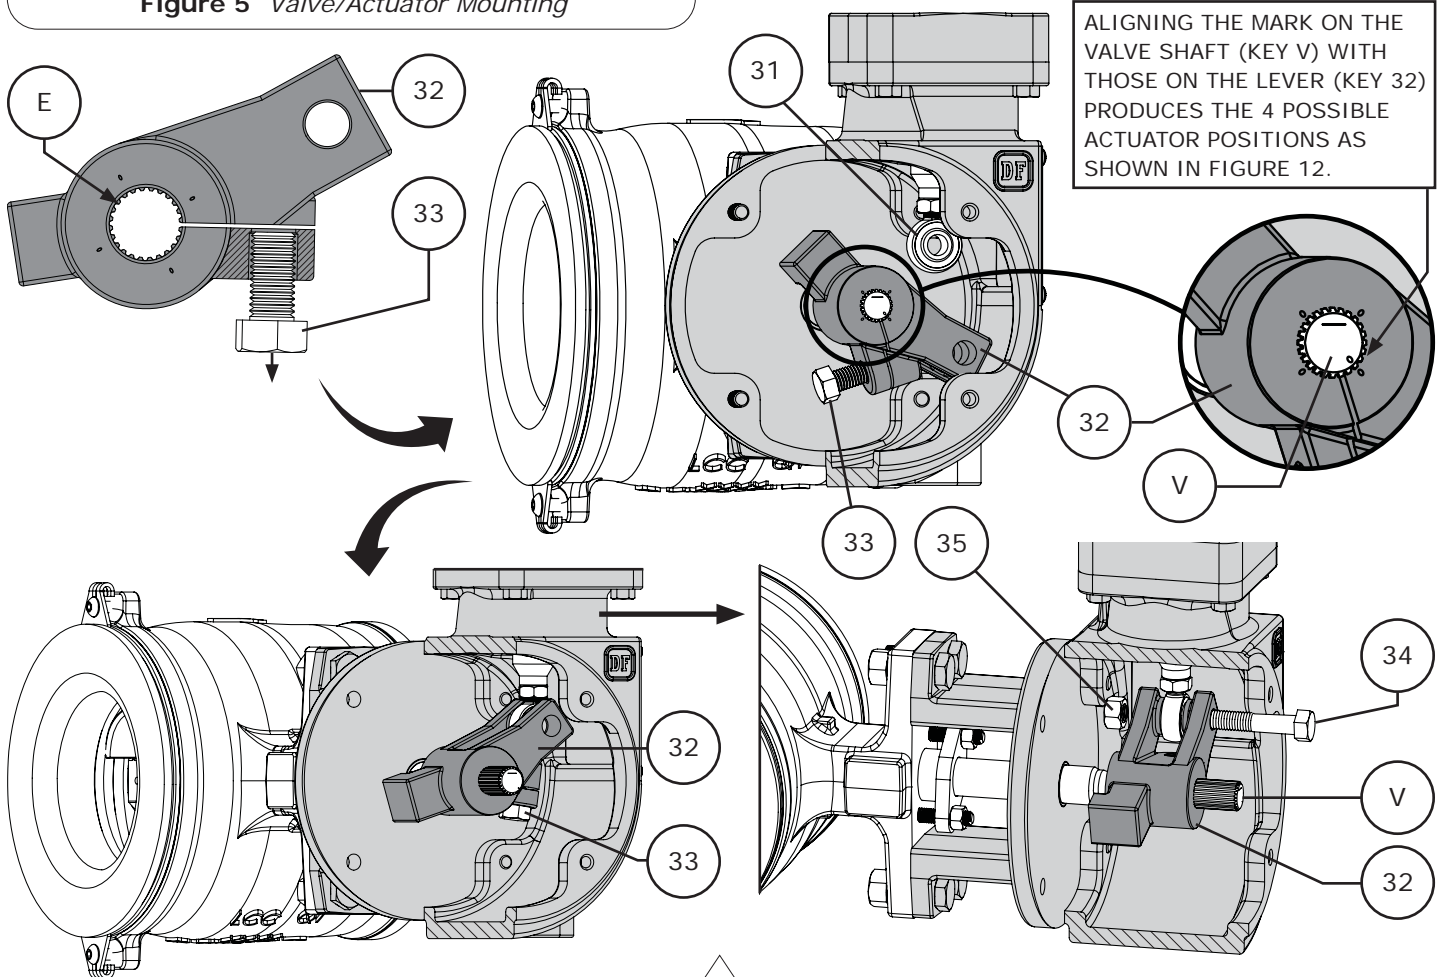

Figure 6 Lever Installation and Orientation Options
- 6 Slide the actuator onto the valve shaft as shown in Figure 5. Refer to Figures 6 and 12 for actuator mounting positions and orientations. **Note:** The actuator is typically installed in a vertical orientation. Should the actuator be installed in a horizontal position, then it may be necessary to have external support for the actuator in this position.
- 14 Install the lever onto the valve shaft (Key V). Refer to Figures 6 and 12, and the appropriate valve instruction manual for proper lever orientation.
- 16 Connect the lever (Key 32) to the rod end bearing (Key 31). Refer to Figure 6: